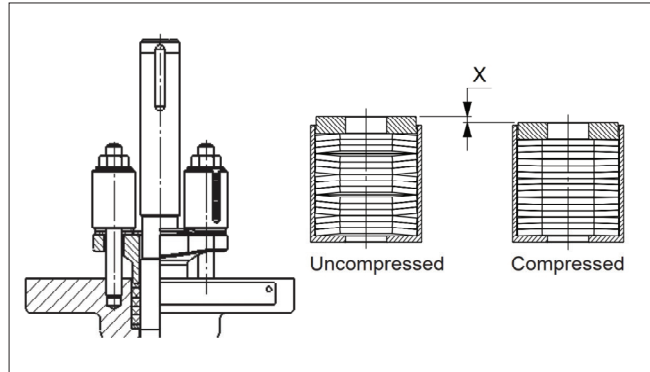

Fig. 13 High performance live-loading
- For the high performance live-loading option (Figure 13), pre compress the gland packing by X length until the top cap reach the shell holder (housing) to ensure proper force in use.